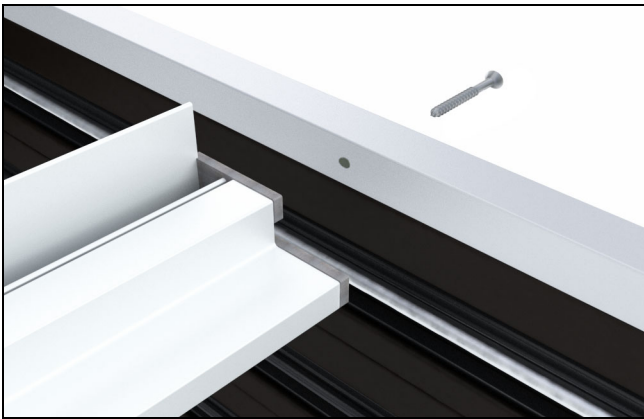

Figure 64
9. Fasten sill liner to pocketing interlock(s) using #8 x 1 1/2" flat head screw. See figure 64.